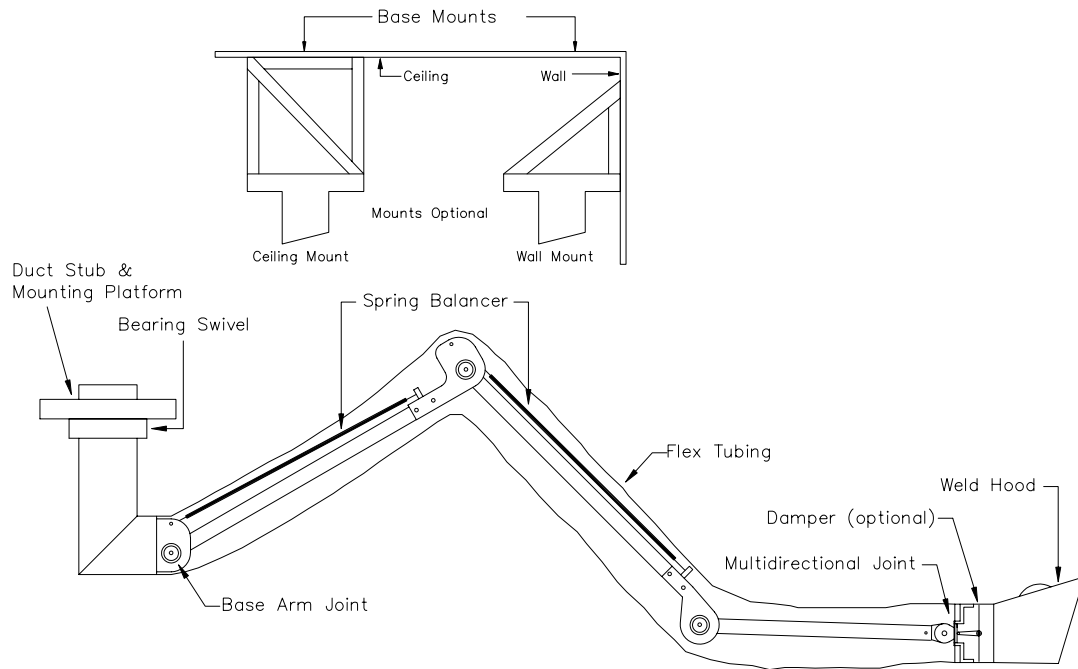

FIG 1: Typical of a 3 section arm assembly. The entire middle arm section and middle arm joint are deleted for arms with only two sections.
1. Mount the base mount to the wall or ceiling with minimum 2" x 2" x 1/8" angle iron if the Ventaire mounts are not supplied. Mounting configurations should look similar to those in FIG 1.
3. Assemble the arm sections as shown in FIG 1. Connect the spring counterbalance(s), if necessary, by placing one hook, on the end of the spring, through the hole in the top of arm joint, and placing the other hook onto the eyebolt fastened to the square tubing at the end of the arm section.
8. The finished arm should appear as depicted in FIG 1.